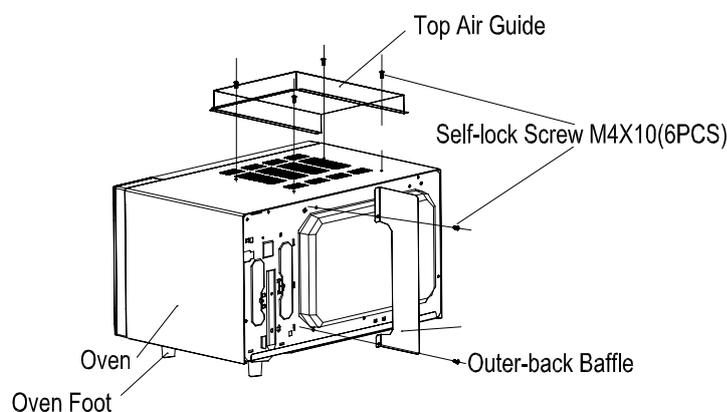
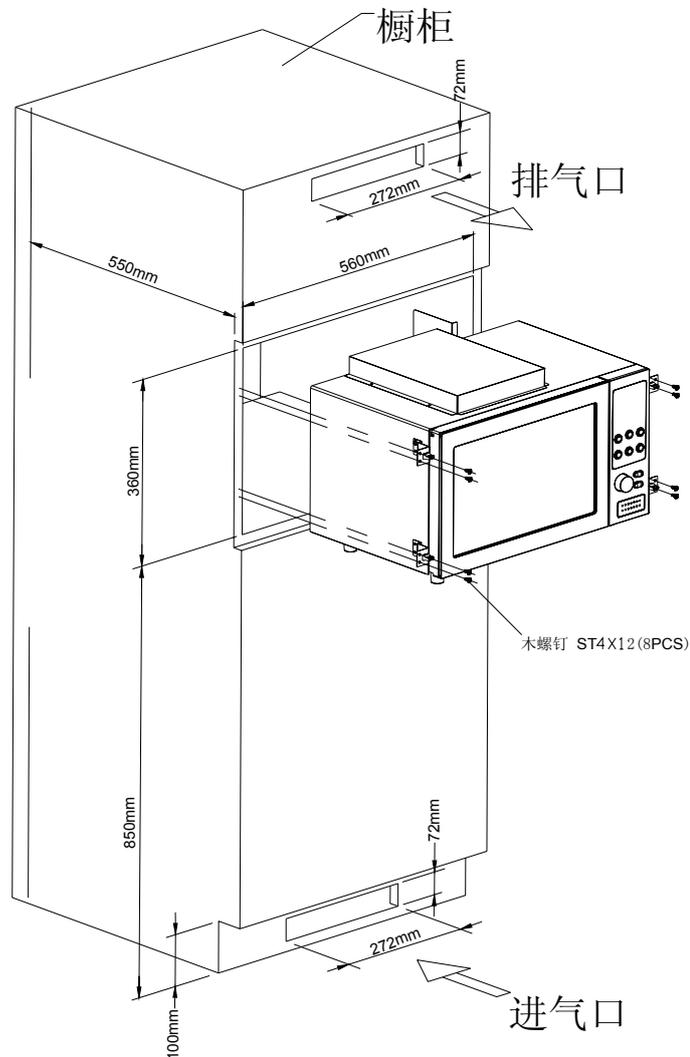

Fig.1
fig.3
b) Net depth $\geq 550\text{mm}$, as shown in Fig.3.
② INSTALLATION:
a) Secure top air guide onto housing while outer-back baffle onto outer-back plate with self-lock screws, as shown in Fig.1.
c) Place microwave oven into cabinet, then fix it with wood screws, as shown in Fig.3.